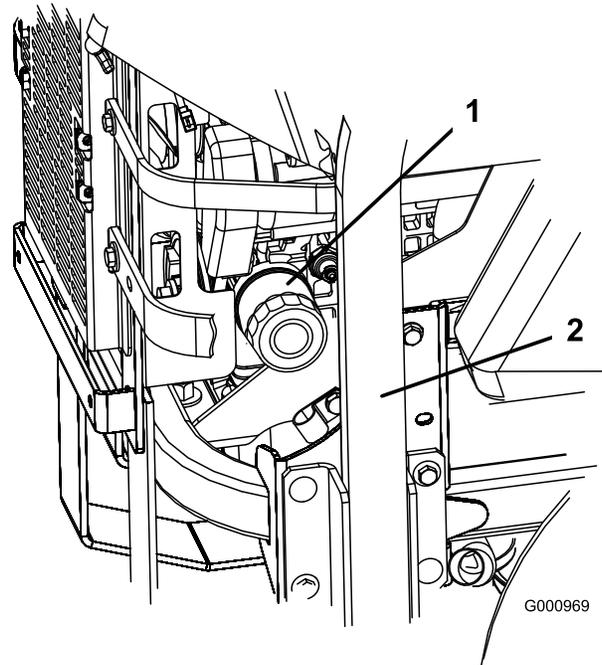
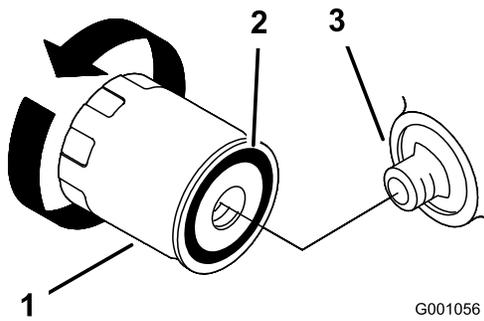

Figure 46
Figure 47
2. Turn the filter counterclockwise to remove it (Figure 46 and Figure 47).